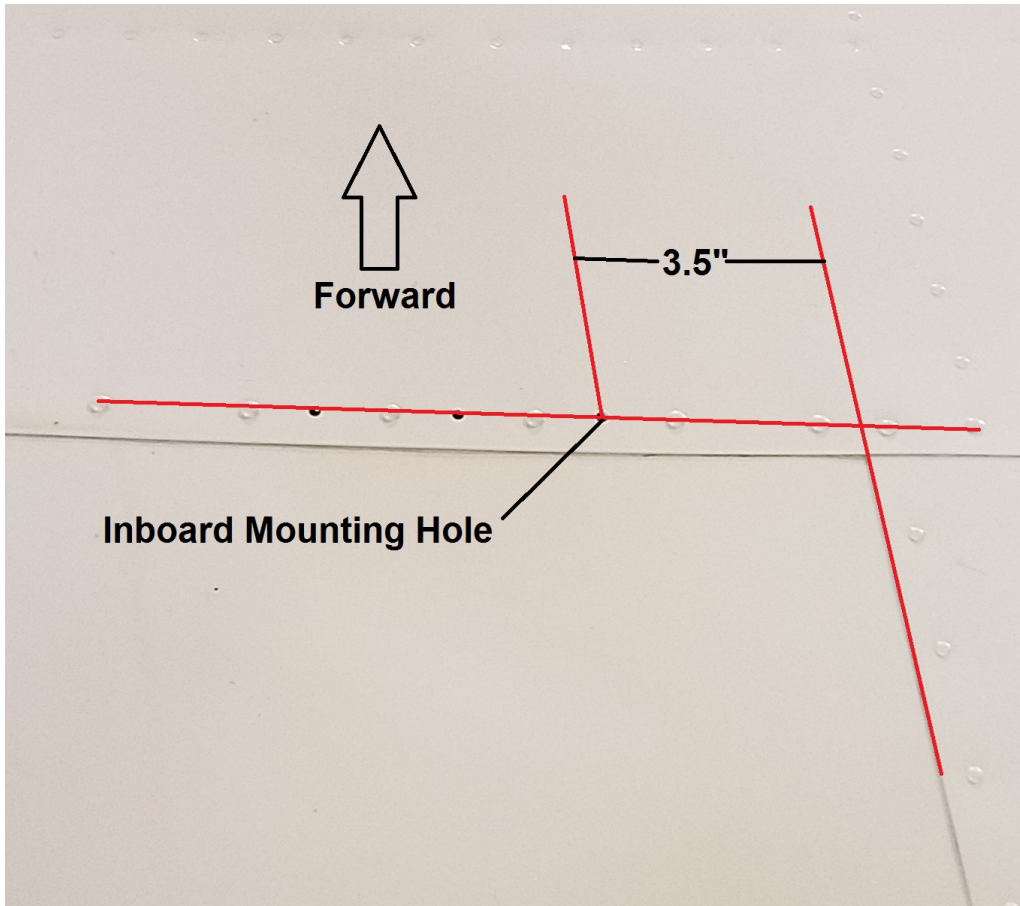

Figure 3-2
- 2.1. Locate the inboard screw hole as shown in Figure 3-2 on the upper wing skin.